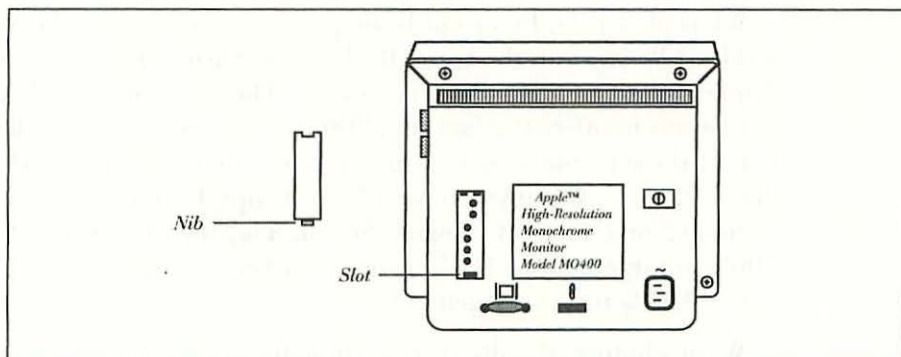

Figure 2-10 Cover plate reinstatement details.
Once the width, the height, the focus, and the contrast are adjusted, it's time to replace the control cover plate. Insert the nib at the bottom of the plate into the slot at the bottom of the control panel and push the plate toward the monitor, as shown in Figure 2-10. With very little effort, the cover plate should snap right into place. That's all there is to it. This procedure is so simple that there is no reason to suffer with a maladjusted monitor. It's easy. Try it for yourself and see. You won't believe the difference this makes!
4. Replace the control cover plate, as shown in Figure 2-10, and you're all done.
6. Replace the control cover plate as shown in Figure 2-10, and you're all done.